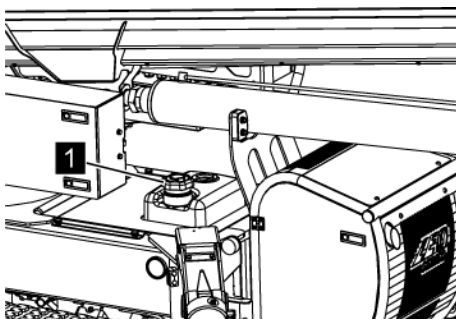

Fig. 161: Fuel tank cap
- 4.** → Remove the fuel tank cap (Fig. 161/1) from the fuel tank by turning it anti-clockwise and keep it in a clean place.
6. → Screw the fuel tank cap (Fig. 161/1) back on.